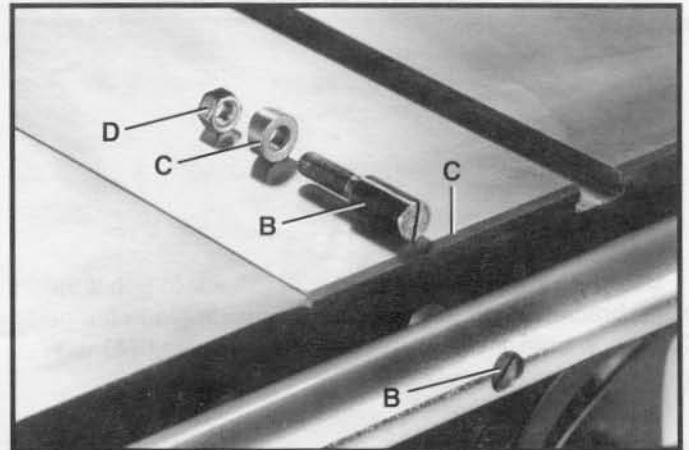

Fig. 14
2. Fasten the guide rail to the table using two special screws (B) Fig. 14, spacers (C), and hexagon nuts (D).